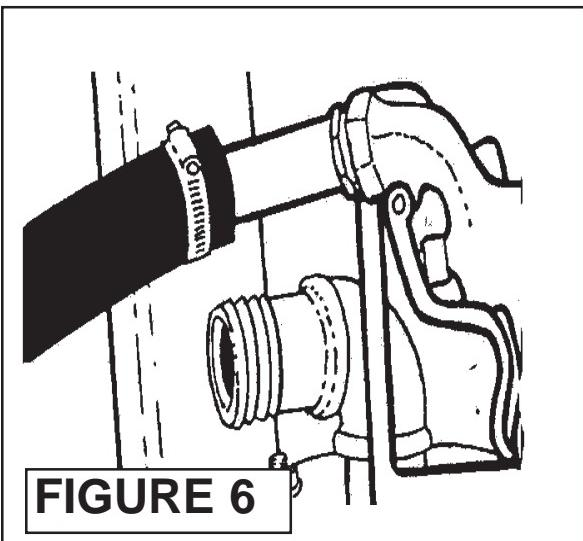
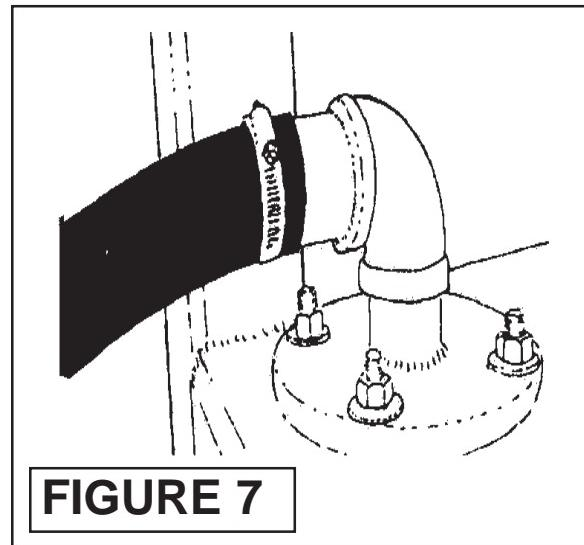
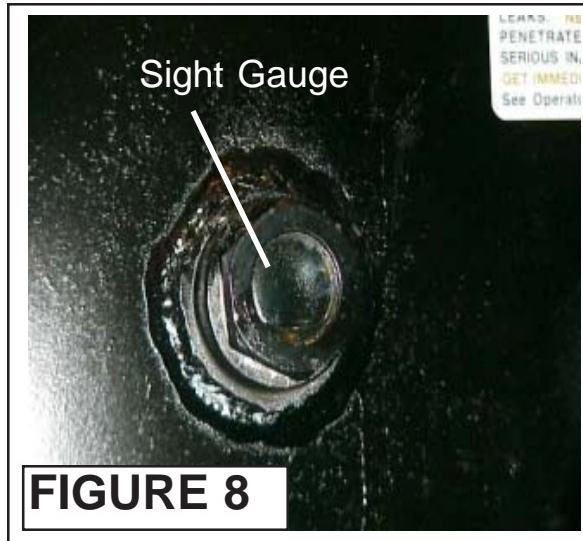
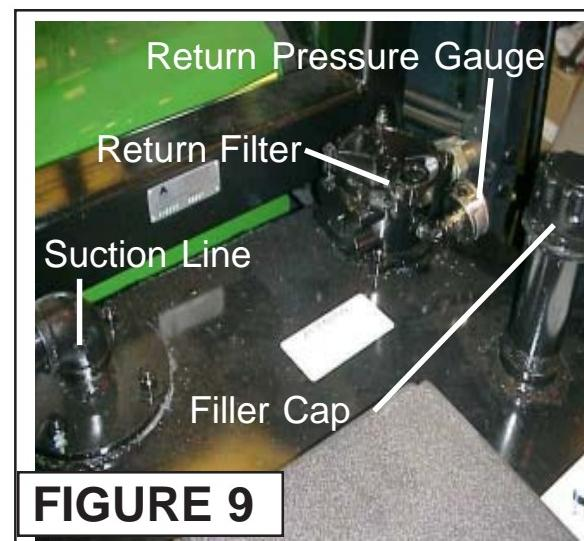

FIGURE 6
FIGURE 7
FIGURE 8
FIGURE 9
1. Attach the Timber Cat Head to the boom using the pins included with the head. Be careful not to damage the pivot bushings in the boom when inserting the pins. Attach the 90° elbow (Item 1) to the front port of the boom and position it so that it faces down. Attach the 90° end of the return hose (P/N 02973125) to the fitting and attach the straight end to the 90° fitting (Item 2) on the flow divider (if it is not already connected). Attach the pressure hose (P/N 02973124) to the rear port of the boom and attach the other end to the 90° elbow (Item 3) on the flow divider (if it is not already attached). (See Figure 6.)
1. With a forklift or hoist, lower the Boom Weldment down on the X-Frame Square Head. Align the Boom Weldment with the X-Frame Square Head Hitch Post. Insert special bolts 1" x 9" (item 1) and item 2, 3/4" x 5-1/2" into Boom Weldment and Hitch Post. Attach nuts 1" (item 3) and item 4, 3/4" to bolt and tighten securely. **Note:** Additional support may be needed at the end of the Boom to aid in installation. Figure 7.
2. Connect the Pivot Hitch toMower as shown in Parts and Assembly Manuals. (See Figure 8)
3. Connect Hoses to Mower Head. Connect Hoses as shown (See Figure 8 & 9) Boom to Mowers , Do Not Start tractor until the hydraulic Tank has been filled, Go to Hydraulic Tank Fill Section now. After Oil has been fill Start Tractor and run the Hydraulic System through its funtions as outlined in the Oil Fill Section. NEVER Start Tractor without Oil in system (Oil level to Sight Glass) it will damage the Hydraulic System if you do.
6. **Fill Suction Hose with Oil.** Remove the Suction Hose at the Tank (See Figure 6) and fill the hose with clean oil, THIS IS A MUST DO. The Suction Hose must be filled with Oil to prevent Dry strat up of Pump. Dry start up of PUMP will damage the Pump. After filling suction Hose reinstall it and tighten down Hose Clamp. (See Figure 7)
6. **Clamp Boom Rest Hook to Boom.** Align Boom Rest Hook with the line on Boom and clamp with large C-Clamp (See Figure 7). Remove Paint if possible (**See Figure 8**). Weld both sides of the Boom Rest Hook to Boom (**See Figure 9**) Move Boom back into Boom rest and check for fit.